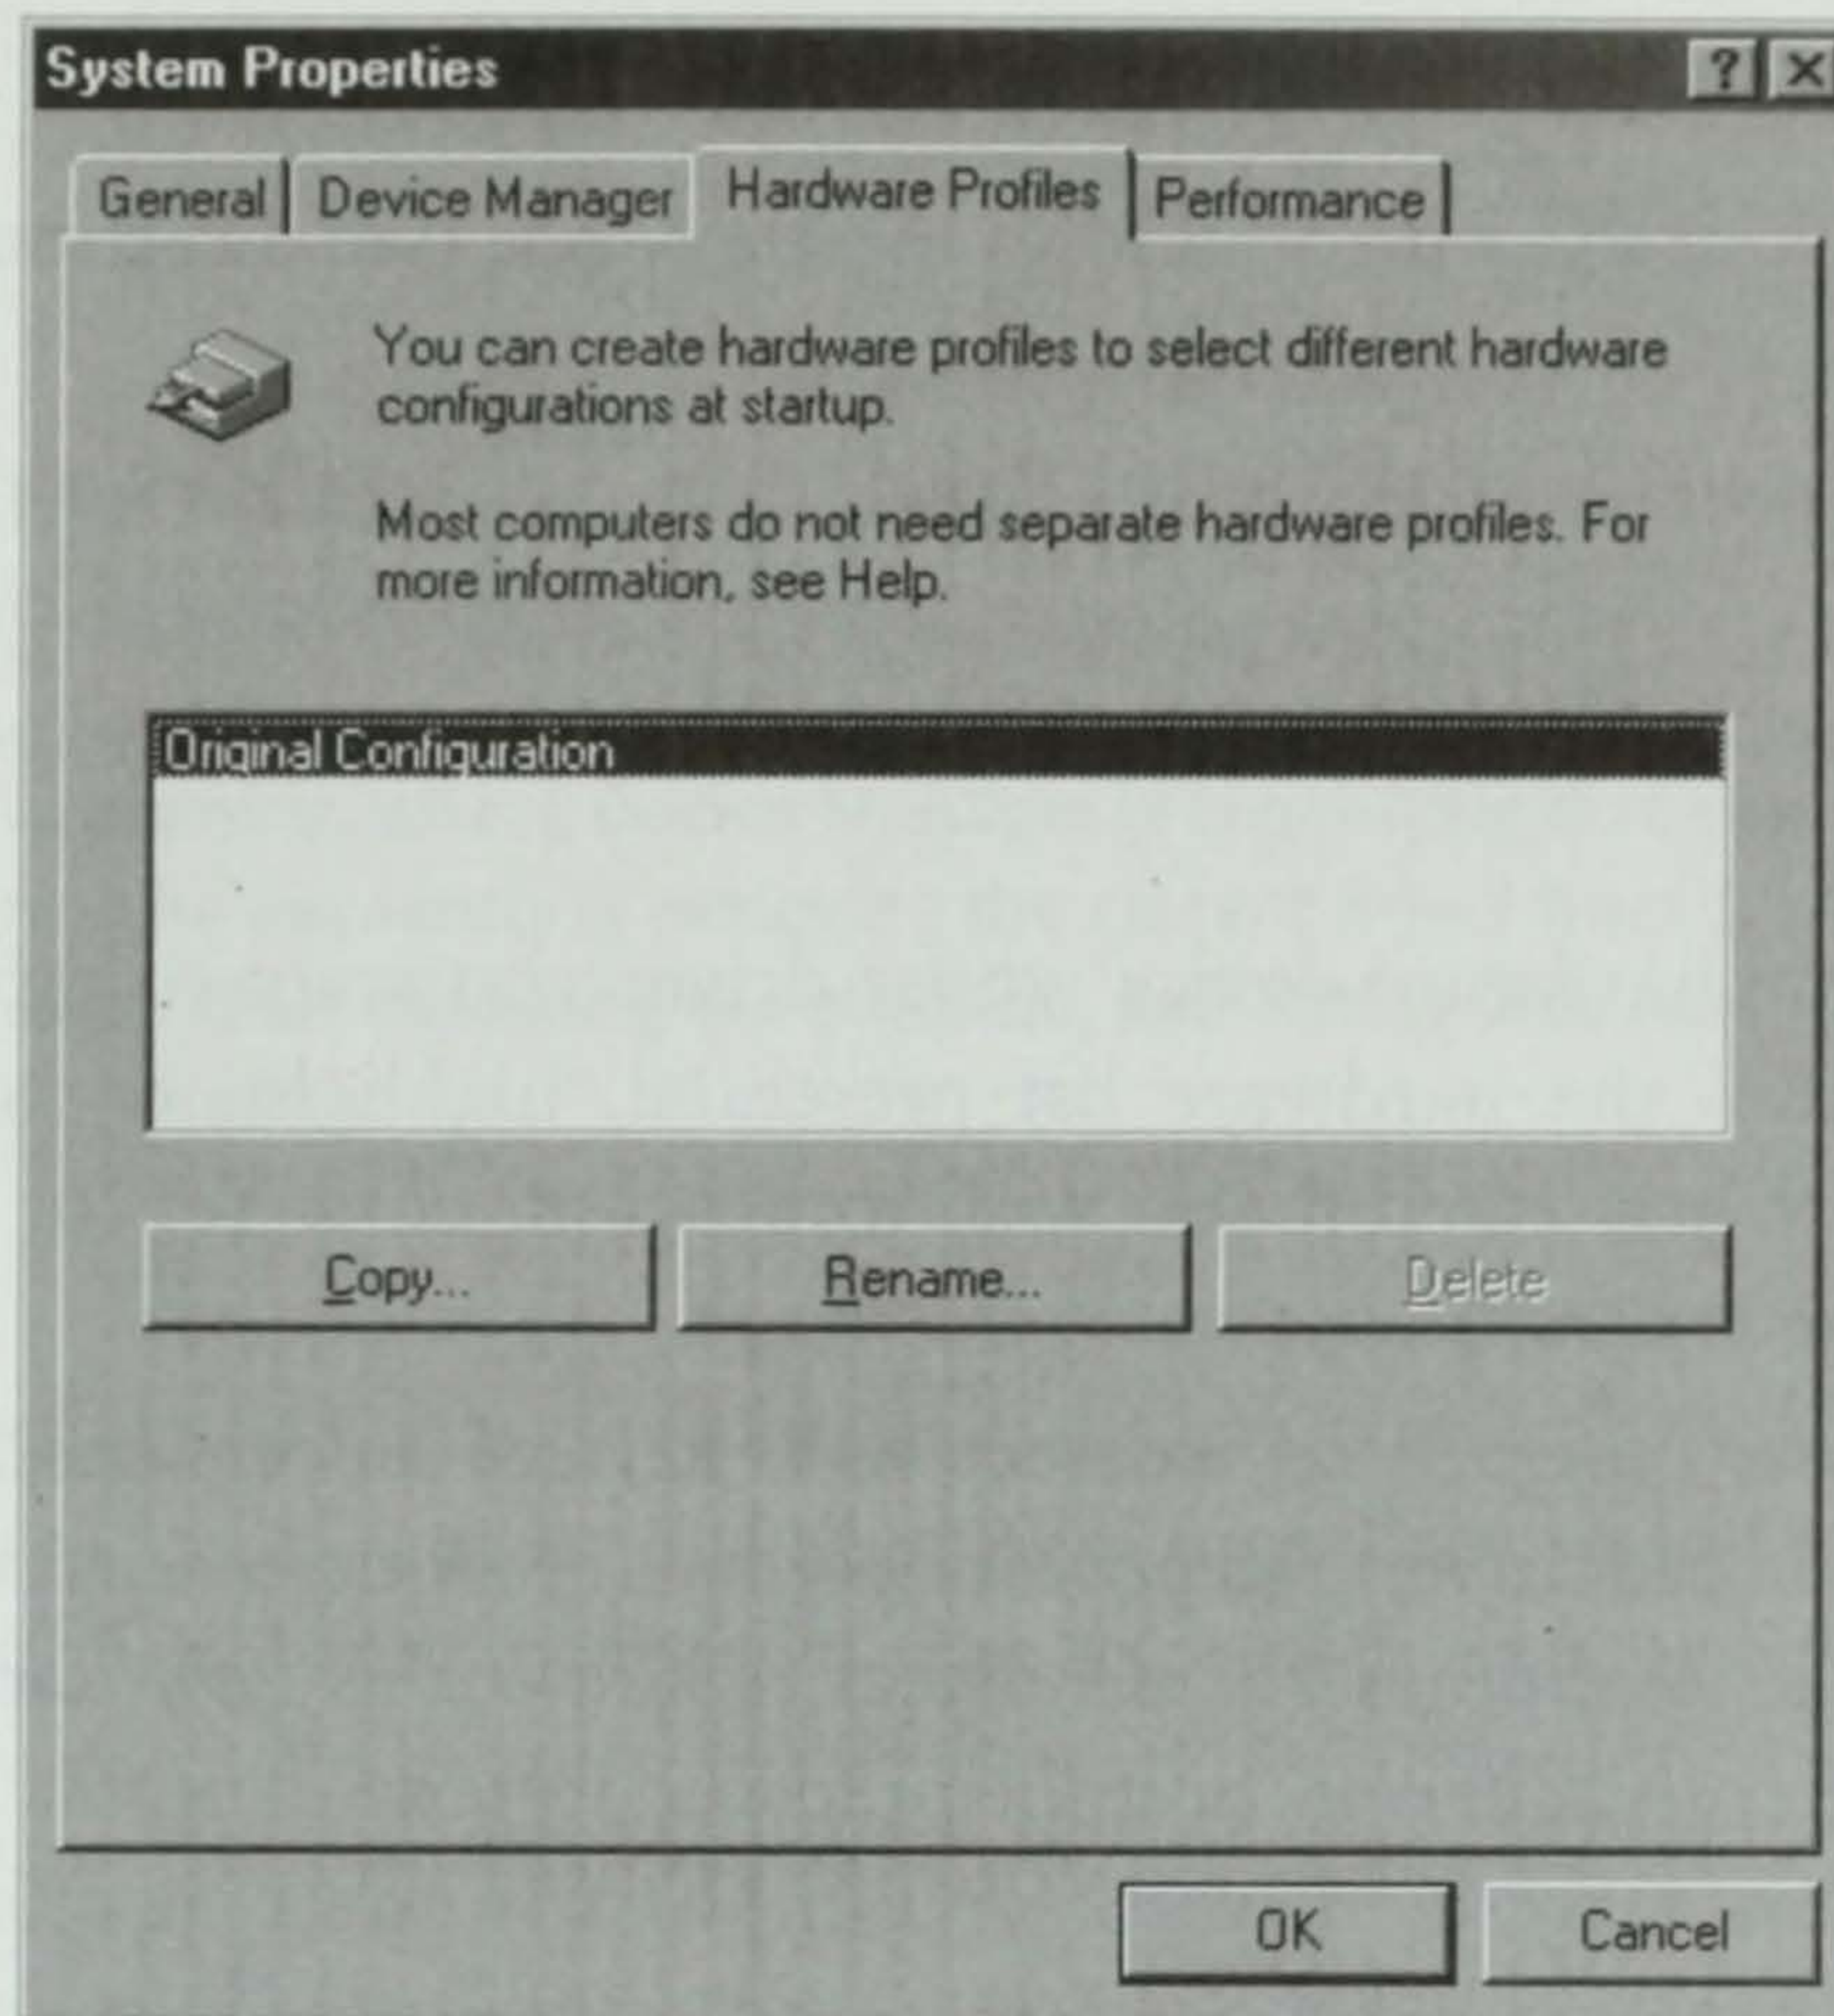

Figure 5.3 Device Manager/Disable Device/Original Configuration.
3. From the General tab beneath, click the Original Configuration (Current) checkbox to clear it, as illustrated in Figure 5.3. Click OK.